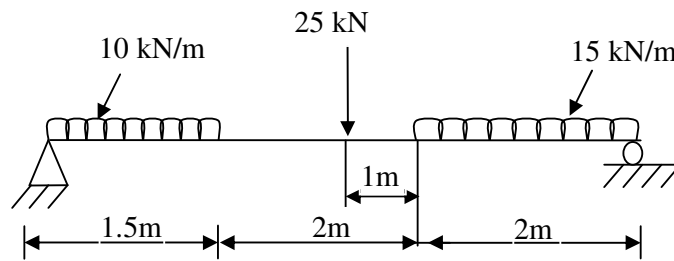

Figure 2
6. a) Draw S.F.D and B.M.D for the simply supported beam shown in Figure 2.